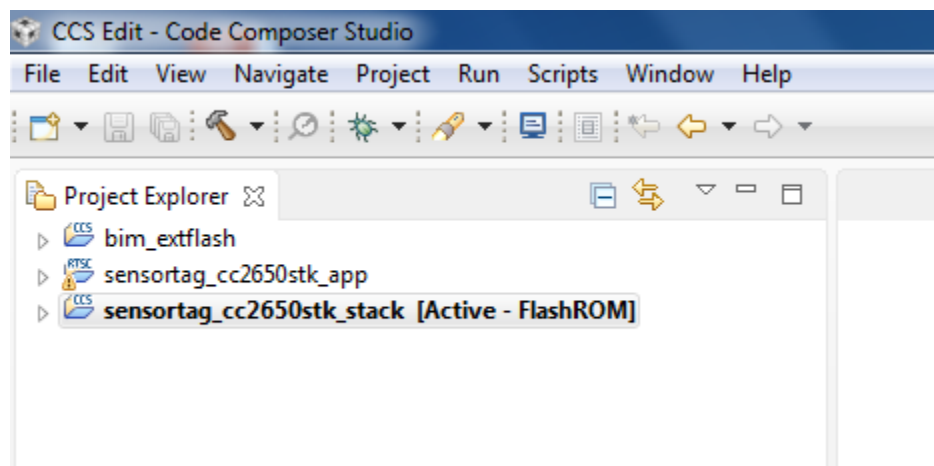

Figure 30, Project Explorer with imported projects.
- g. Click Finish. The bim\_extflash project should appear in the Project Explorer along with the sensortag\_cc2650stk\_app and sensortag\_cc2650stk\_stack projects. (Figure 30).